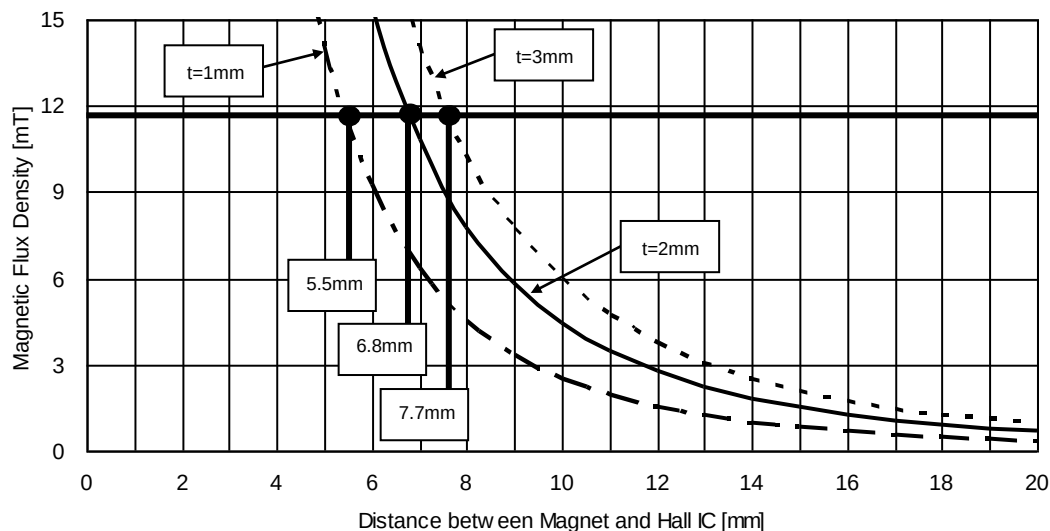

Figure 18. Magnetic Flux Density vs Distance between Magnet and Hall IC
Of the two representative varieties of permanent magnet, neodymium generally offers greater magnetic power per volume than ferrite, thereby enabling the highest degree of miniaturization, thus, neodymium is best suited for small equipment applications. Figure 18 shows the relation between the size (volume) of a neodymium magnet and magnetic flux density. The graph plots the correlation between the distance (L) from three versions of a 4mm x 4mm cross-section neodymium magnet (1mm, 2mm, and 3mm thick) and magnetic flux density. Figure 19 shows Hall IC detection distance – a good guide for determining the proper size and detection distance of the magnet. Based on the BU52075GWZ operating point max of 11.6mT, the minimum detection distance for the 1mm, 2mm and 3mm magnets would be 5.5mm, 6.8mm, and 7.7mm, respectively. To increase the magnet's detection distance, either increases the magnet's thickness or sectional area.